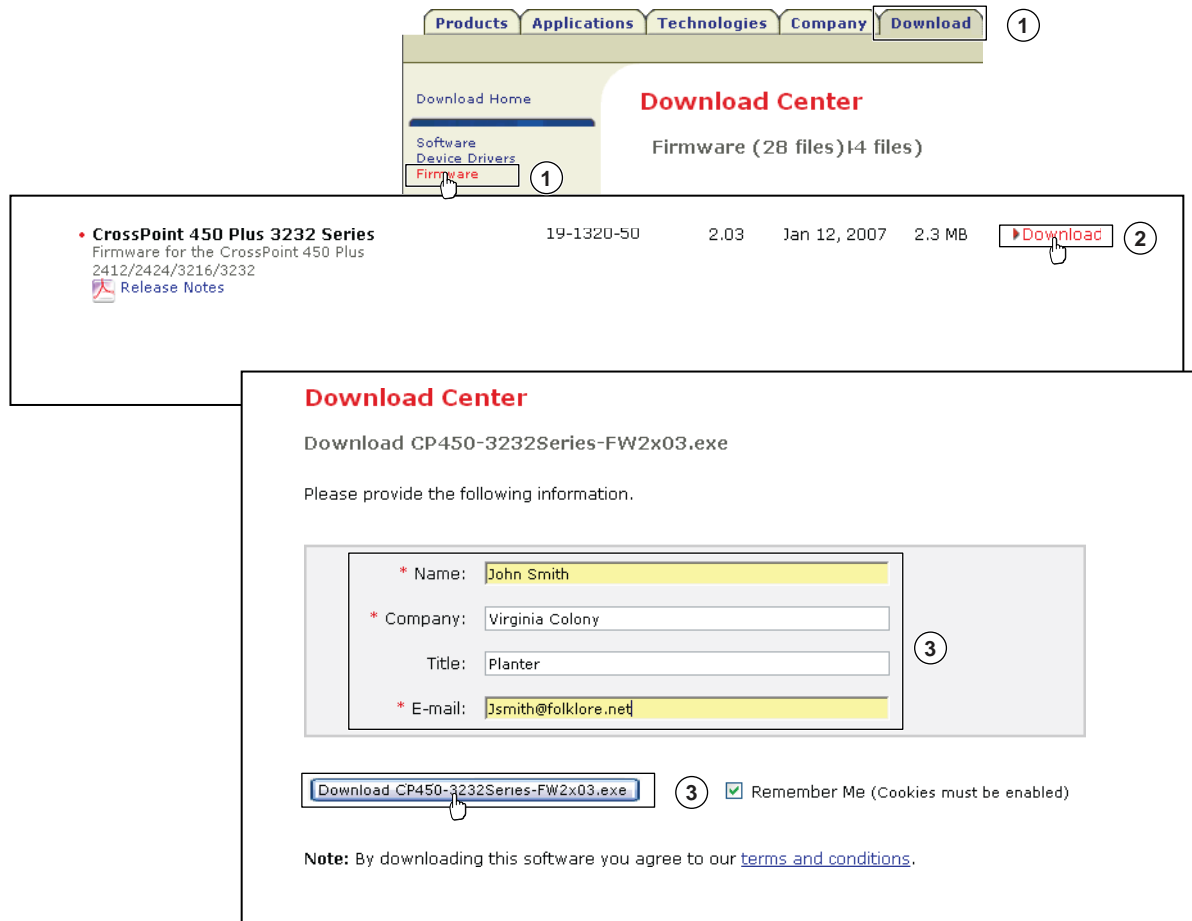

Figure 5-9 — Location of firmware upgrade files
1. Visit the Extron Web site, www.extron.com, click the **Download Center** tab, and then click the **Firmware** link (figure 5-9).